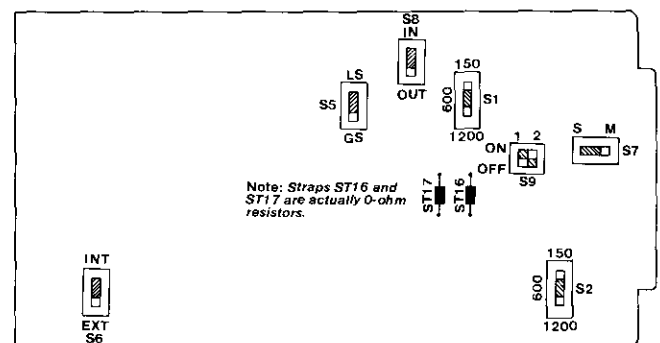

figure 3. Locations of option switches and option straps on 6943 module
3.07 Seven option switches on the 6943 must be set before the module is placed into service. All are two- or three-position slide switches except for one two-position DIP switch. Locations of these switches on the 6943's printed circuit board are shown in figure 3. Instructions for setting these switches are provided below (see table 6 for a summary and checklist).
**3.14** Two strap options on the 6943 provide a choice either of simplex (*SX*) connection of the signaling (A&B-lead) path to the transformers at the module's terminal- (station-) side ports or of separation of the signaling path from the transmission path. Locations of these straps on the module's printed circuit board are shown in figure 3. If the normal arrangement—extension of the signaling path from the 6943 to the local termination via *SX* connection of locally derived A&B leads to the module's station-side-port transformers—is desired, leave straps *ST16* and *ST17* in place. (Both straps are normally factory-installed on all 6943 modules.) If separation of the signaling path from the transmission path is desired, cut or remove straps *ST16* and *ST17*. (If you must either *remove* or *reinstall* straps *ST16* and *ST17*, be certain to observe the **caution** notice below.)